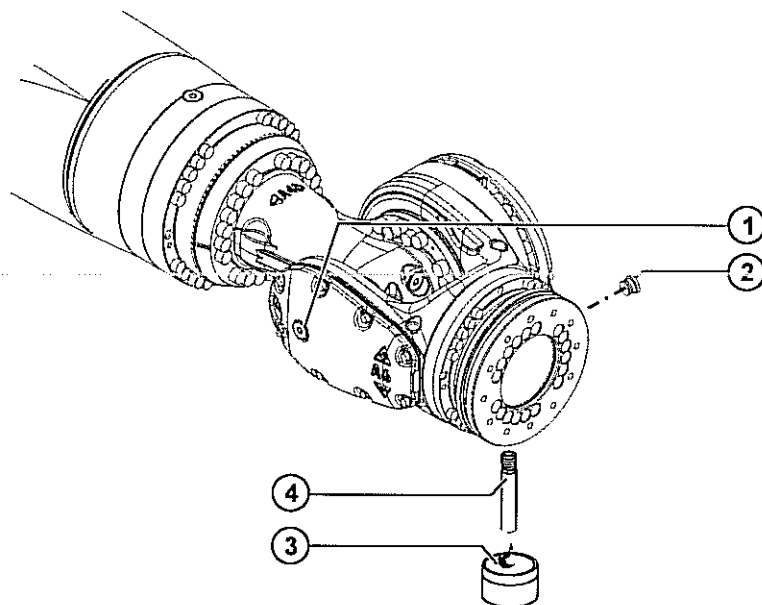

Fig. 10-7: Oil change, A6
2. Place a suitable receptacle ($\gg$ Fig. 10-7) under the (lower) magnetic screw plug and remove the magnetic screw plug.